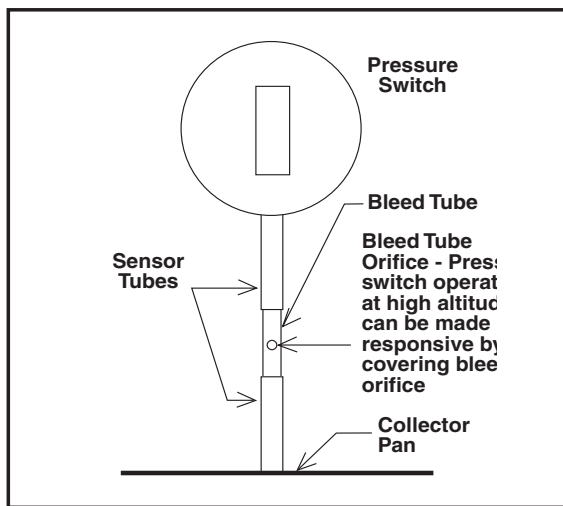

Figure 9. *TA Bleed Tube Installation
1. Remove the rubber tubing from the pressure switch sensor tube and the collector pan sensor tube. Cut 1/2 inch from one end of the rubber sensor tube, fold in half and cut along the bend line. Discard the 1/2 inch long piece of tubing. Select the correct bleed tube using the table supplied with vent kit #903196 and place the other two pieces of tubing on both ends of the bleed tube. Do not cover the hole in the bleed tube. Place the assembly back on the pressure switch sensor tube and the collector pan sensor tube. (See Figure 9.)